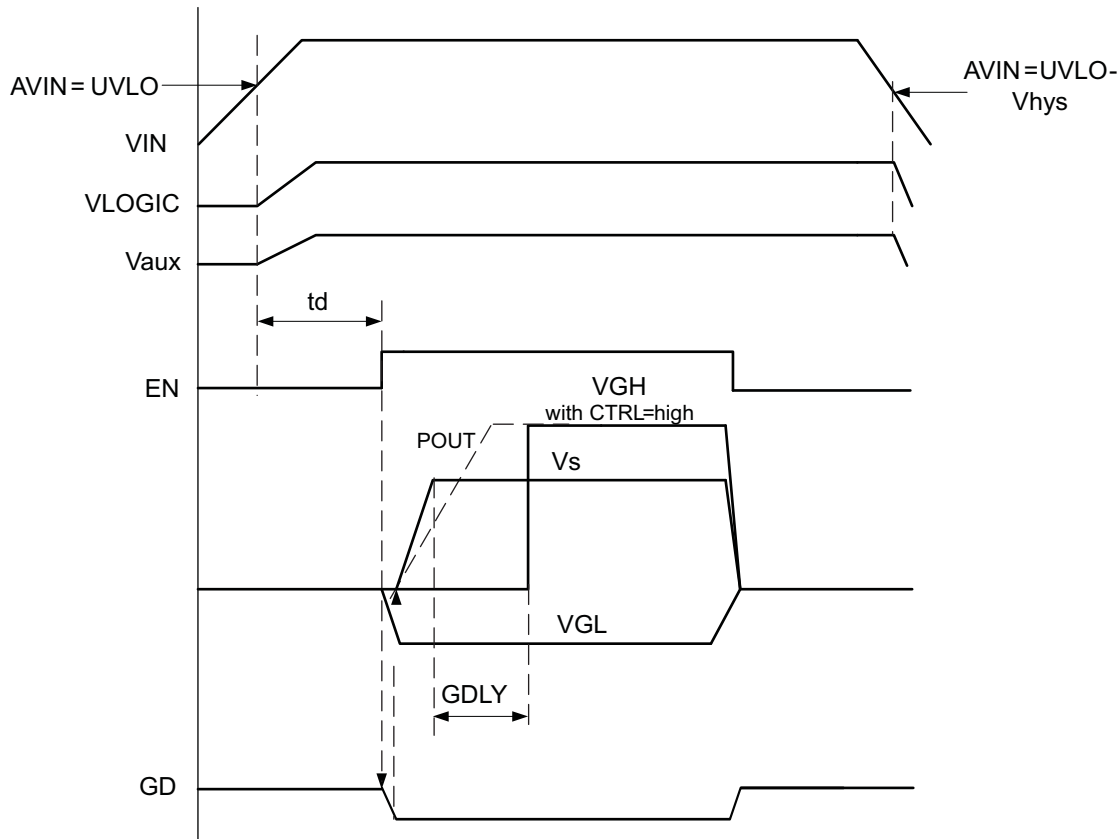

Figure 23. Power Up Sequencing
The device has an adjustable start-up sequencing to provide correct sequencing as required by LCD. When the input voltage exceeds the undervoltage lockout threshold, then the step-down converter and LDO controller start-up at the same time. As the enable signal (EN) goes high, the negative charge pump starts up followed by the boost converter Vs starting at the same time as the positive charge pump. See the typical curves shown in Figure 18, Figure 19, and Figure 23.
If no logic control signal is available, it is also possible to connect a capacitor to this pin to set the delay time  $t_d$  as shown in Figure 23 and Figure 19.